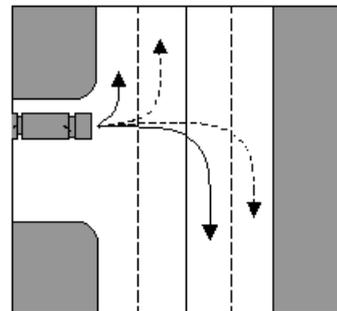

Fig 10
35.2.3 left out of a depot, you must, where practicable, enter the lane that is nearest the left kerb (Fig 10);
35.2.4 right out of a depot, you must, where practicable, enter the lane that is nearest the centre of the road (Fig 10).